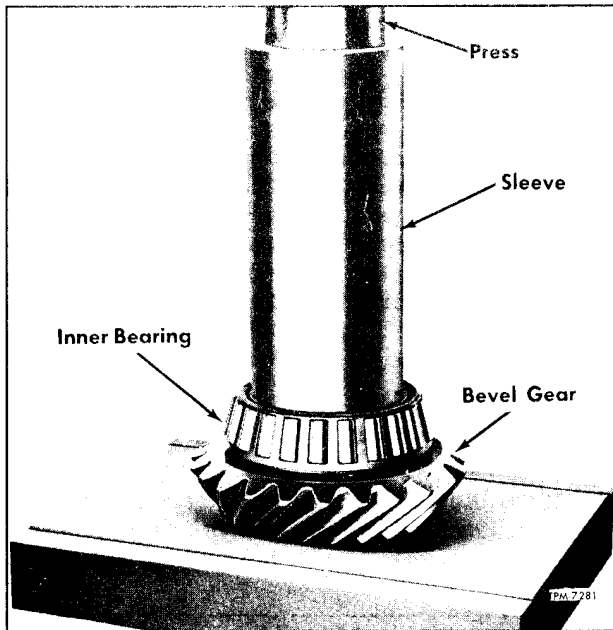

Figure 73—Installing Bevel Gear Inner Bearing
1. If bevel gear inner bearing cone (12) was removed from bevel gear at disassembly, install inner bearing cone using a suitable sleeve and arbor press. Support bevel gear on soft metal or hardwood block and seat bearing race firmly at shoulder (fig. 73).
2. Install bearing adjustment spacer (10) on shaft of bevel gear.
3. Inspect counterbores in bearing retainer (4) which must be clean.